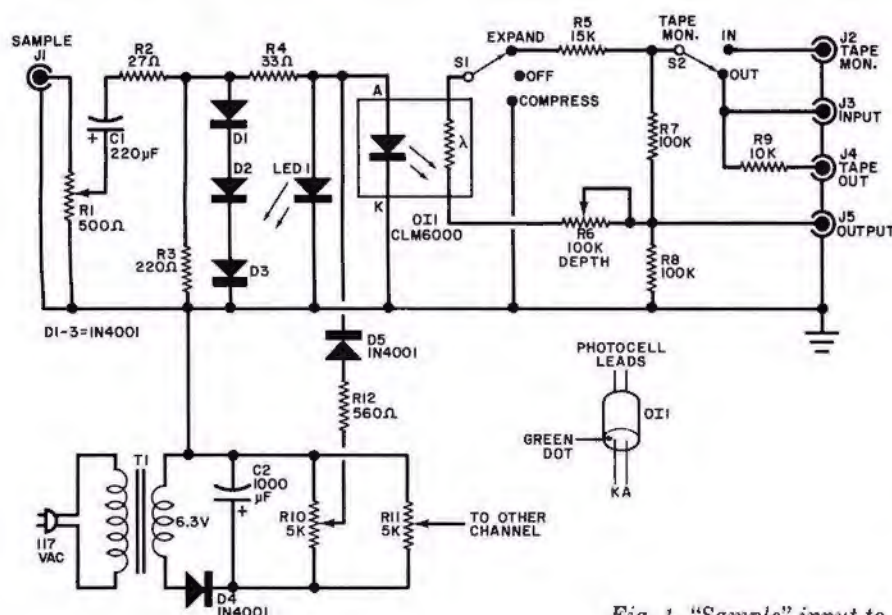

Fig. 1. "Sample" input to compander is same as input to the speaker.
**Circuit Operation.** The heart of the compander circuit (Fig. 1) is an opto-isolator (O1), which contains a light emitting diode and a low-distortion photocell in a light-tight plastic enclosure. This unit has much faster response time than devices using an incandescent lamp (often used in compressors). It also introduces less distortion and has the advantage of providing a slight "slow release" action to enhance the expansion effect.